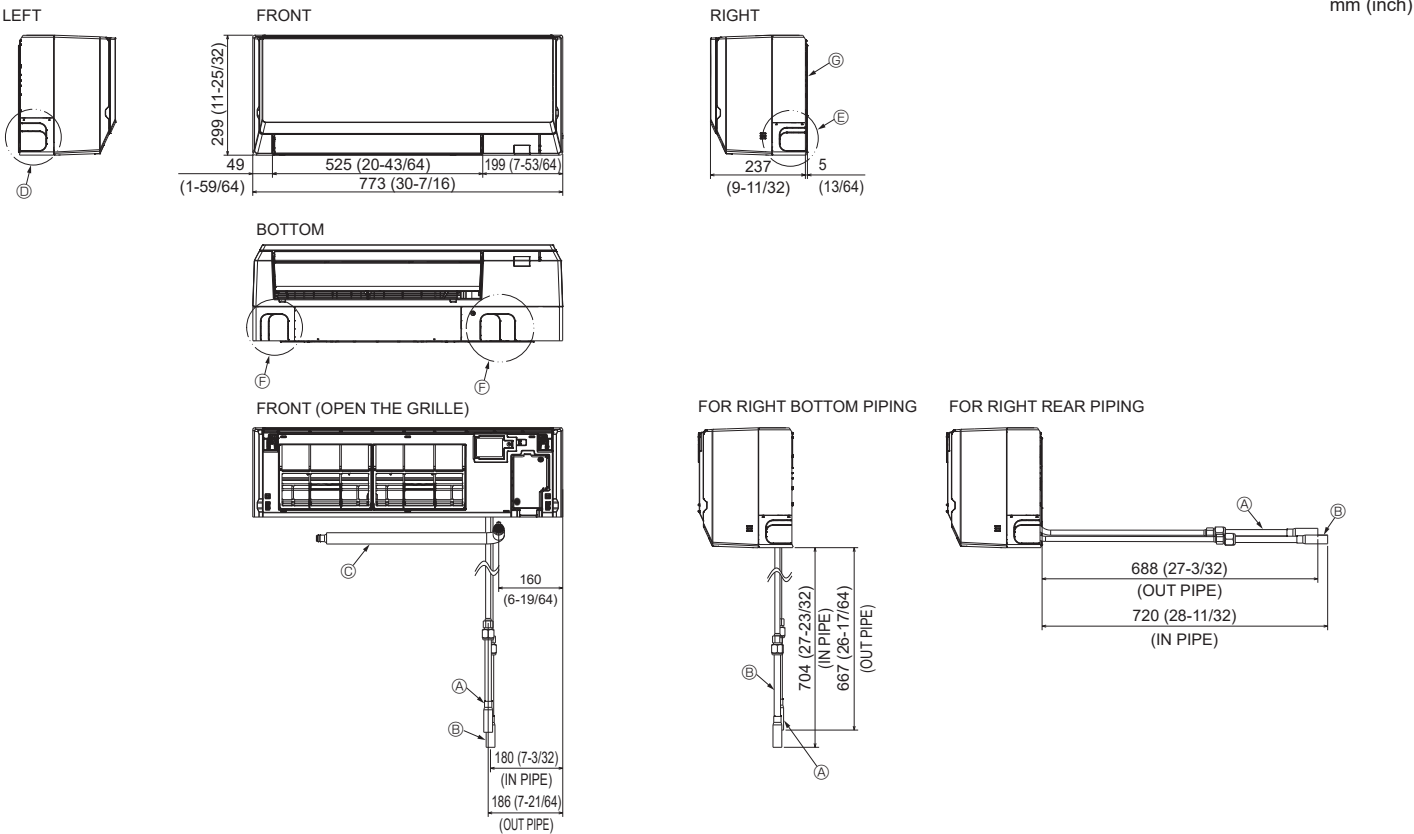

Fig. 4-5
4.2. Positioning water and drain piping (Fig. 4-5, 4-6)
- G Mount board ①